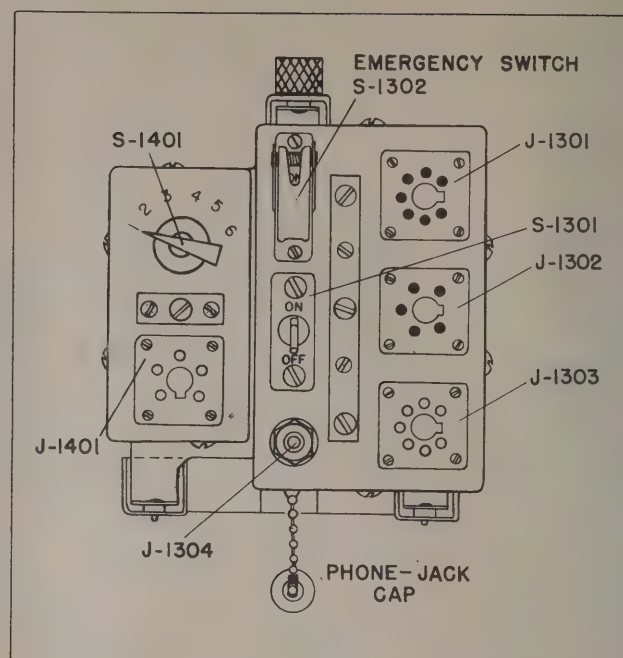

Figure 2-9. Selector and Control Units, Panel Controls
(Refer to Figures 2-9 and 4-15.)
a. Operation of the equipment is basically like that described earlier for the control shown in Figure 2-9. There are however, certain manipulative differences noted below.